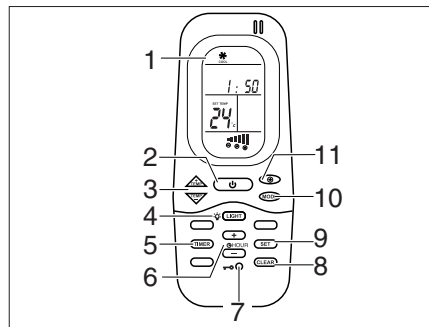
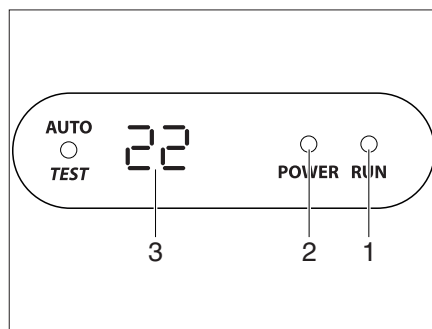

Fig. 119 Remote control
Fig. 120 Display on the diffuser
The air conditioning unit is located on the roof of the vehicle. The remote control (Fig. 119) for the air conditioning unit is located in the kitchen area.
The air conditioning unit is ready to operate. The LED (Fig. 120,2) on the diffuser's display lights up red.
- To switch on, press the on/off switch (Fig. 119,2) on the remote control. The LED (Fig. 120,1) lights up green when the air conditioning unit is in cooling mode. The LED (Fig. 120,1) lights up red when the air conditioning unit is in heating mode.
- Set the desired operating mode using the MODE button (Fig. 119,10).
- If necessary, set the desired fan level by using the button (Fig. 119,11) and the room temperature by using the buttons (Fig. 119,3).
- To switch off, press the On/Off switch (Fig. 119,2) on the remote control again.
- To carry out programming, switch on the air conditioning unit with the On/off switch (Fig. 119,2) on the remote control.
- Press the TIMER button (Fig. 119,5). The ON indicator for the Start time is activated.
- Set the time with the TEMP (+/-) buttons (Fig. 119,3).
- Press the TIMER button (Fig. 119,5) again. The OFF indicator for the Start time is activated.
- Press the TIMER button (Fig. 119,5) again.
- Upon completing the setting, press the SET button (Fig. 119,9).
- Press the CLEAR button (Fig. 119,8) to delete the timer programming.